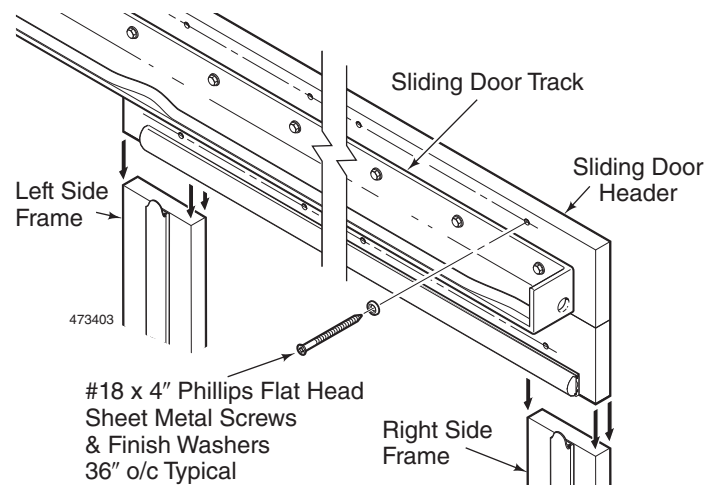

Figure 3
5. Mount the Sliding Door Track and Header assembly above the door frame. See *Figure 3*. For a single door, mount the end of the Track flush with the edge of the side frame. For a bi-parting door, the center stops on the Door Track should be centered above the door opening. In all cases, anchor the Door Header with the #18 x 4" Phillips flat head sheet metal screws and finish washers.